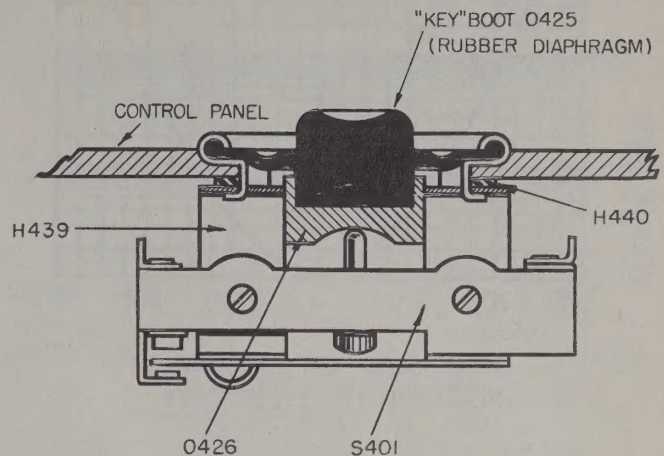

Figure 6-12. Cross Section of KEY "Boot" Assembly
Step 1. Remove the unit from the carrying case as indicated in paragraph 1.b.(2) of section 5.
Step 3. Unscrew the two bolts holding the switch S401 to its bracket H439. See figure 6-20. This will reveal the boot assembly flange which is swaged over the edges of the switch bracket, as indicated in the cross-sectional view, figure 6-12.
Step 7. Place the new boot assembly (0425), the rubber washer (H440), and switch bracket (H439) in position as shown in figure 6-12. Be sure that all mating surfaces are free from dirt or foreign matter.